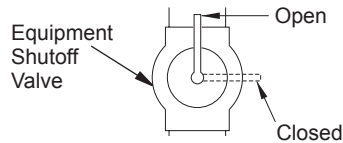

Figure 8 - Equipment Shutoff Valve
1. Close equipment shutoff valve (see Figure 8).
1. Open equipment shutoff valve (see Figure 8, page 9).
- Close equipment shutoff valve (see Figure 8, page 9).